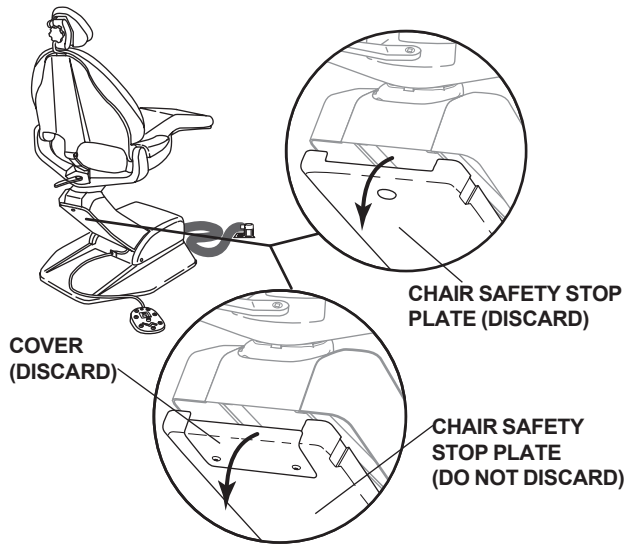

FIGURE 3
1. Remove the chair safety stop plate (see Figure 3).